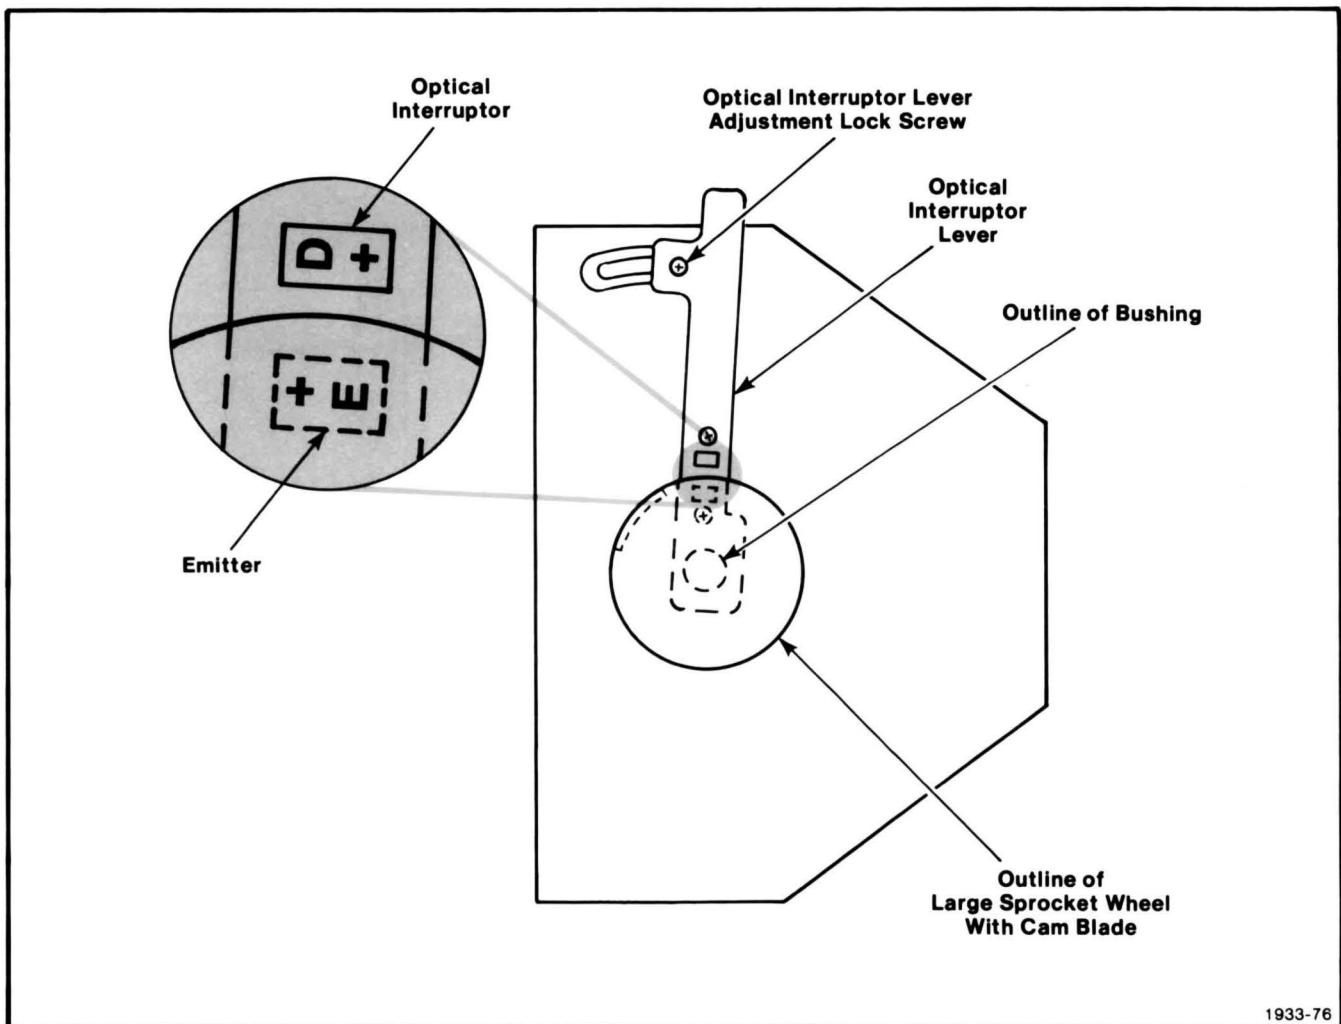

Figure 3-16. Optical Interruptor Lever Assembly.
4. **Remove** the bushing from the main rotary pen turret shaft. This bushing is between the large sprocket wheel (just removed) and the optical interruptor lever (see Figure 3-16).
5. **Remove** the optical interruptor lever adjustment lock screw and washer (see Figure 3-16).
6. **Remove** the two screws holding the optical interruptor (light source/phototransistor) to the optical interruptor lever (see Figure 3-16).
The optical interruptor (light source/phototransistor) is replaced in the reverse manner, except that the optical interruptor is oriented with the emitter (marked E+) closest to the main rotary pen turret shaft (as shown in Figure 3-16). In addition, the sprocket wheel is oriented so that when the rotary pen turret knob index points to CAP, the sprocket wheel's cam blade is located between the optical interruptor's light source and its phototransistor.
10. **Remove** the bushing from the main rotary pen turret shaft. This bushing is between the large sprocket wheel (just removed) and the optical interrupter lever (see Figure 3-16).